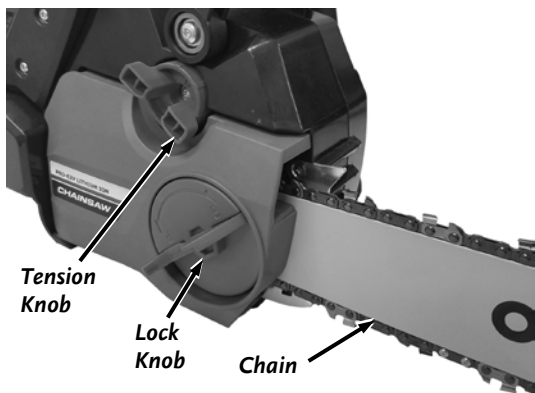

Figure 9
6. Loosely secure the Side Cover onto the Bar Post (**Figure 9**).